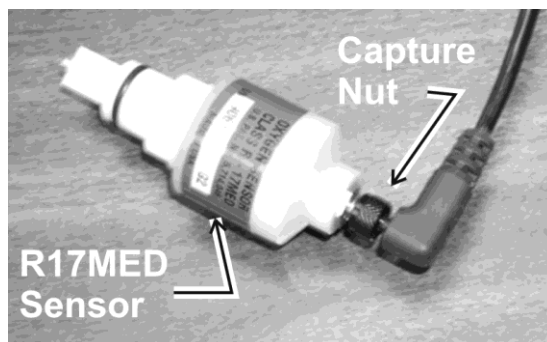

Figure 2-1: Installing the R17MED Sensor
2. Plug one end of the coiled cable into the receptacle on the back of the R17MED sensor and secure it in place with the capture nut located at the base of the connector. See Figure 2-1.